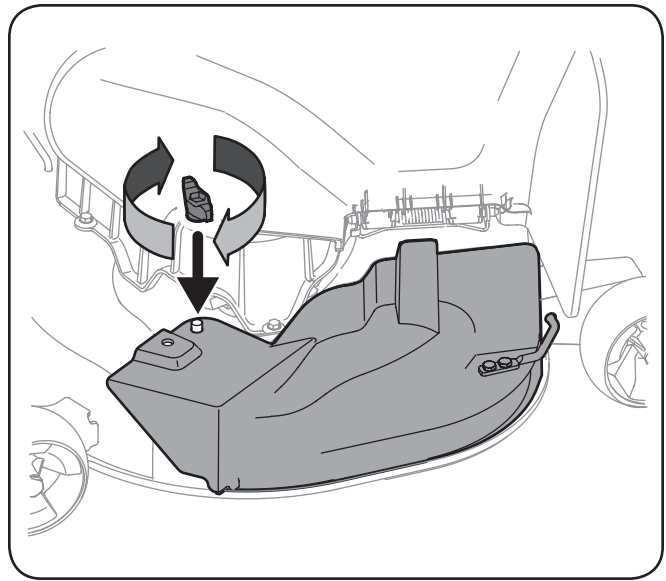

**Figure 1-7**
**Important:** Be certain that the bottom of the mulch plug is installed down inside of the lip of the deck opening, as shown in Figure 1-7.